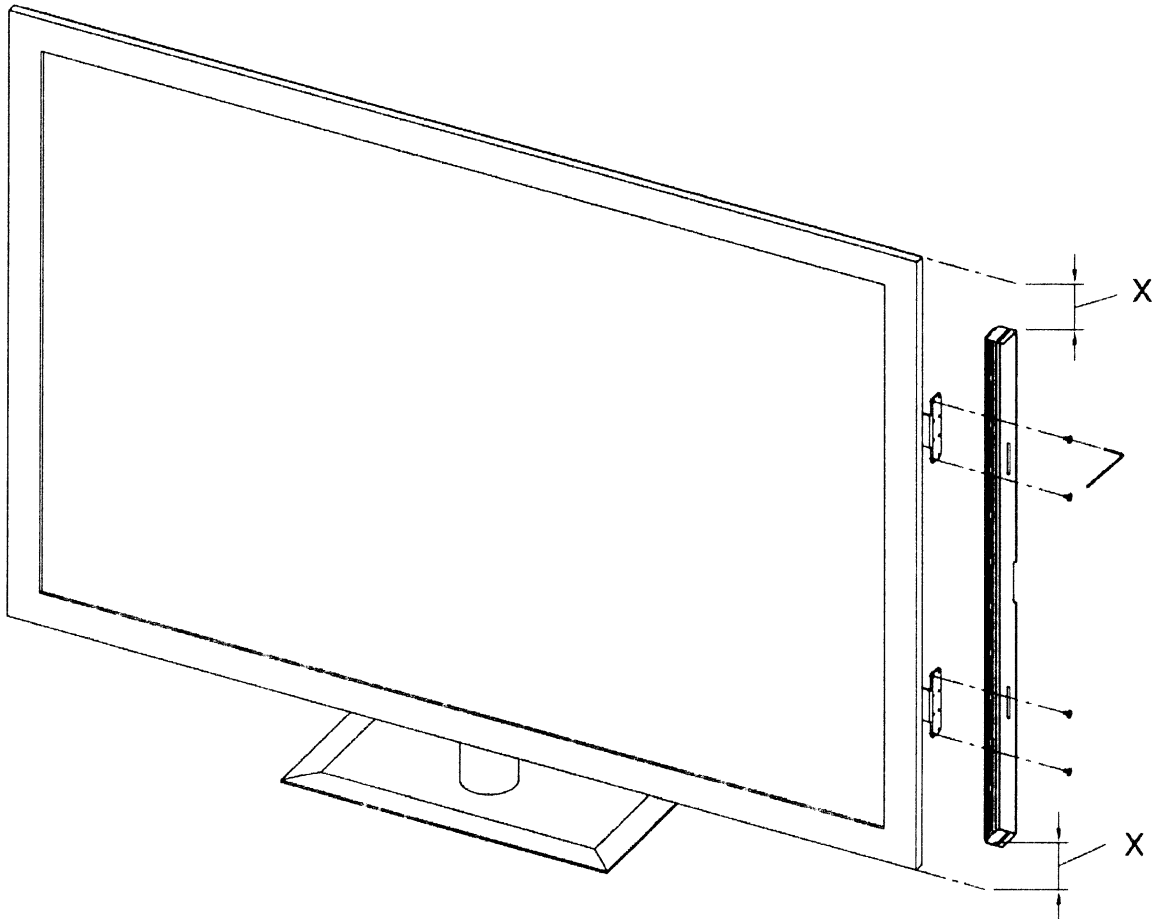

FIGURE 12
24. Using a tape measure, vertically center the LCR DM Brackets by having equal distances from the ends of the bracket to the top and bottom of the FPTV edge. Then tighten the Bracket to Bracket Screws. **Refer to FIGURE 12.**